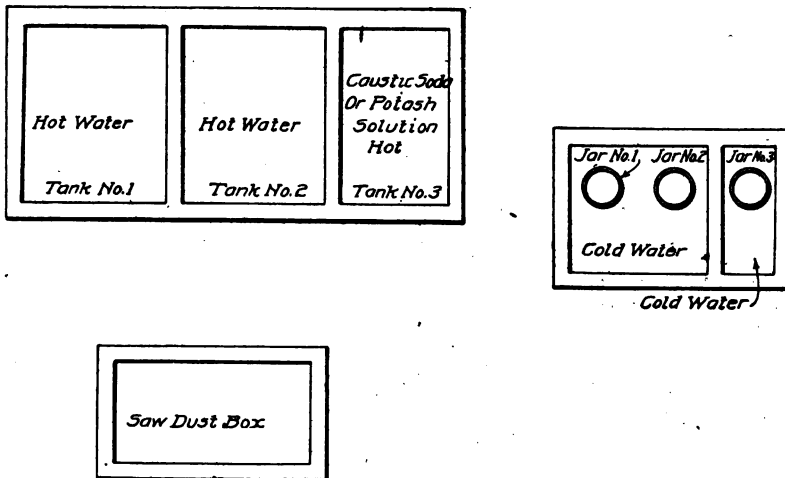

Fig. 408. Layout for Battery Cleaning Outfit
*Cleaning Outfit.* The cleaning outfit should consist of three sheet-steel tanks, Fig. 408, of suitable size (35 gallons for a large shop) mounted so that their contents may be kept heated to the desired temperature, three stone jars of approximately 15 gallons capacity, and a sawdust box. Two of the steel tanks should be equipped with overflow pipes so that they can be kept about two-thirds full at all times. These are tanks No. 1 and No. 2. They are used for clear hot water for rinsing parts after they have been cleaned. The third tank does not require a drain nor an overflow pipe and is used for the potash or caustic soda solution. This can be used for a long time without changing by simply adding a small amount of soda as the solution weakens. All three tanks are maintained at a temperature of 180° to 212° F., or approximately the boiling point.
The three jars mentioned are used for the acid solutions and are referred to as jars No. 1, No. 2, and No. 3. A wood tank large enough to hold the three jars and divided into two compartments, as shown in Fig. 408, should be provided. This is important, as the parts cannot be rinsed in the same cold water after being immersed in the different acid solutions. The solutions recommended are in tanks 1 and 2, clear hot water; tank 3, a solution consisting of one pound of caustic soda per gallon of water. Jar No. 1 is filled with a solution consisting of four gallons of nitric acid, one gallon of water, and six gallons of sulphuric acid. The water is placed in the jar first, the nitric acid is added slowly, and the sulphuric acid is poured in last. This order must be strictly followed, as it is dangerous to mix a solution of these acids in any other manner. In jar No. 2, the solution is one gallon of hydrochloric acid to three gallons of water, while jar No. 3 contains a solution of one-half pound of cyanide to a gallon of water. Tank No. 2 should be used only for parts which have been in the potash solution and for no other purpose. Tank No. 1 is for general rinsing purposes.